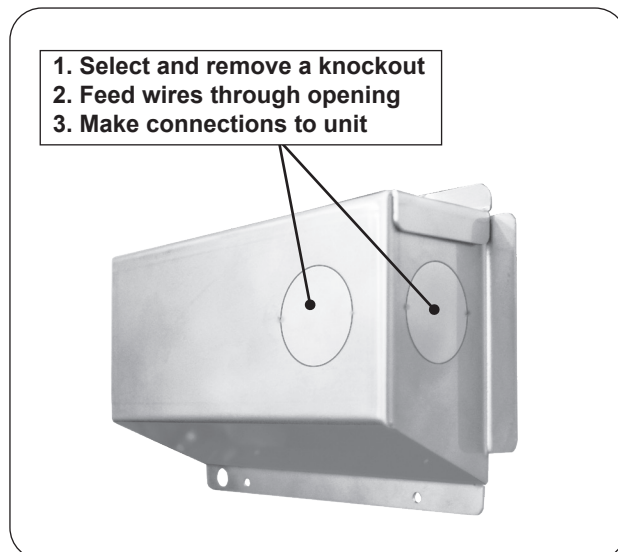

Fig. 27-1 Junction box knockouts
2. Remove the junction box located on the rear of the unit. Select and remove a knockout from the junction box that will best suit your electrical setup. Route the wiring through the selected knockout opening. See Fig. 27-1.